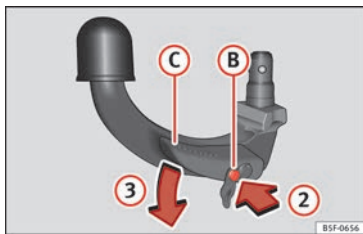

Fig. 224 Step 2.
- Press the release bolt ② in the direction of arrow ②, and at the same time press lever ③ in the direction of arrow ③ as far as it will go »» Fig. 224.